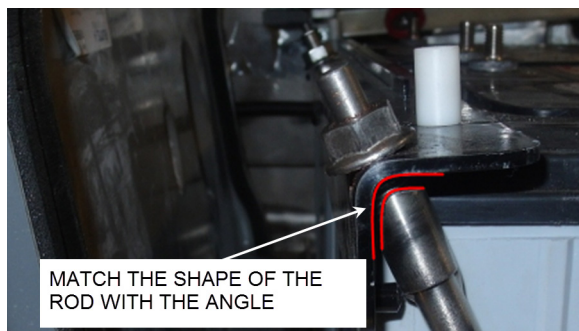

FIGURE 51: SHAPE OF THE ROD
3. The upper end of the rods is shaped to match with the angle (FIGURE 51).